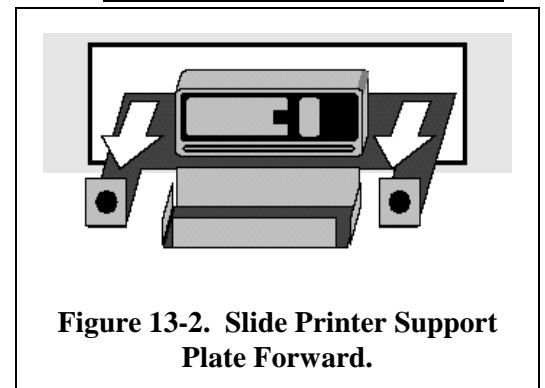

Figure 13-2. Slide Printer Support Plate Forward.
- 3) Slide the printer assembly forward so that it comes part way out of the main ENDEC enclosure. The printer slider is captive and can not be removed. See Figure 13-2.
- 2) Slide the printer assembly forward so that it comes part way out of the main ENDEC enclosure. The printer slider is captive and can not be removed. See Figure 13-2.